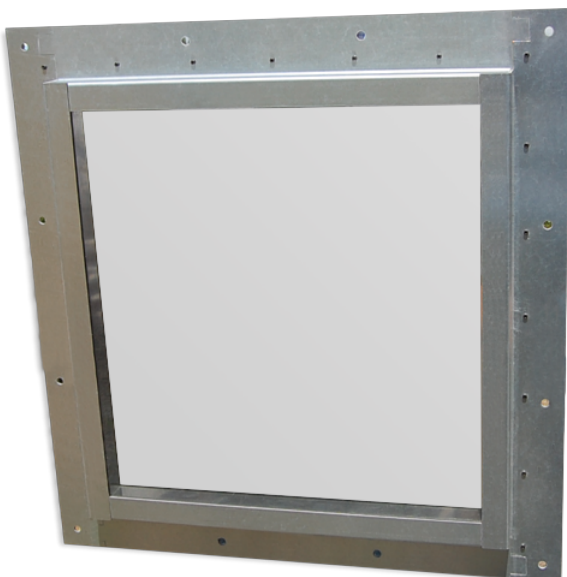

Figure 74.1 : Example of a framed ready to install high performance shielding window
- High performance combinations of above materials, framed in metal with gaskets for easy mounting (fig. 74.1) **74**
We produce turnkey shielded windows with up-to and even over 100 dB attenuation that can be installed directly into an MRI room. These windows are framed and have several layers of shielding, all of which are connected to one another (fig. 74.1).